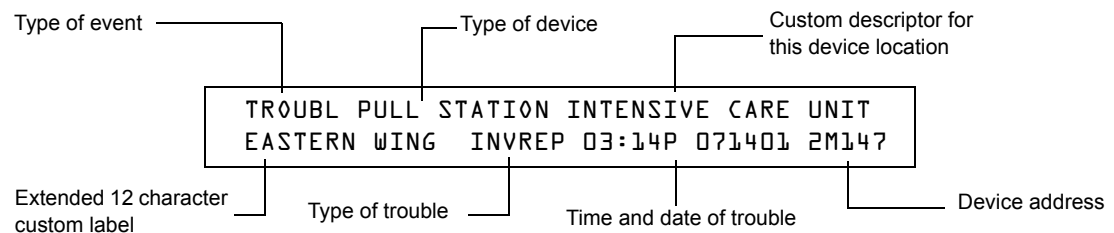

Figure 8 Sample Trouble Message
- Displays TROUBL in the status banner on the LCD display as well as the type of trouble and information specific to the device, as shown in Figure 8 below.